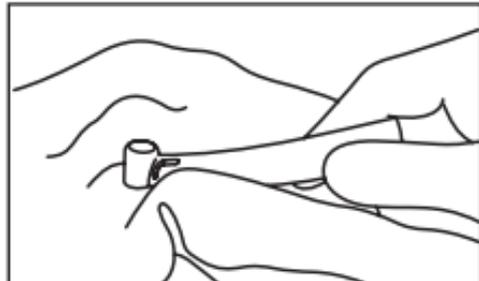

Fig. 16
- 3) Wipe the exterior of the handpiece, clean using a cloth moistened with disinfectant or ethanol with a concentration of 60-90% (Fig. 16).